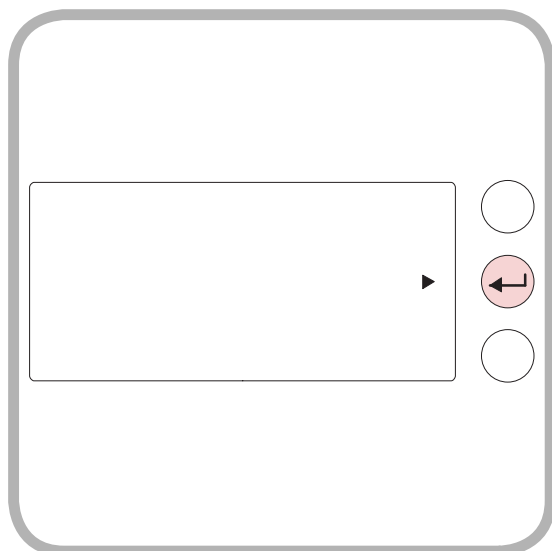

Fig. 32 General selection screen
- Press Enter to return to the general selection screen (Fig 32).